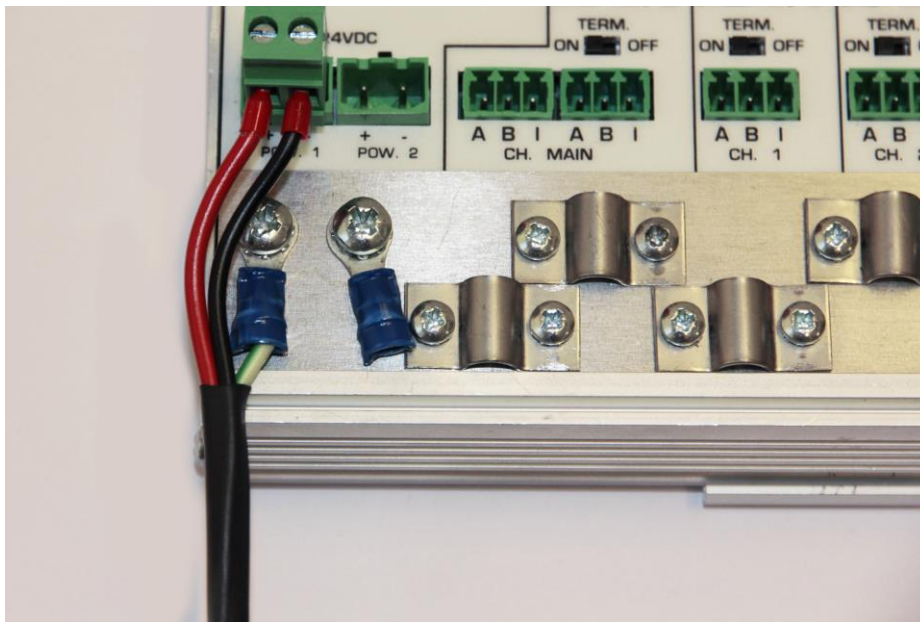

Fig. 12 – Connection to Ground Rail
① It is recommended to use a power supply with a ground lead (3-wire). Connect the ground lead of the power lead to the Ground Rail of the ProfiHub B2+. Connect the Ground Rail to the common ground with a separate ground lead. See Fig. 12 for an example.